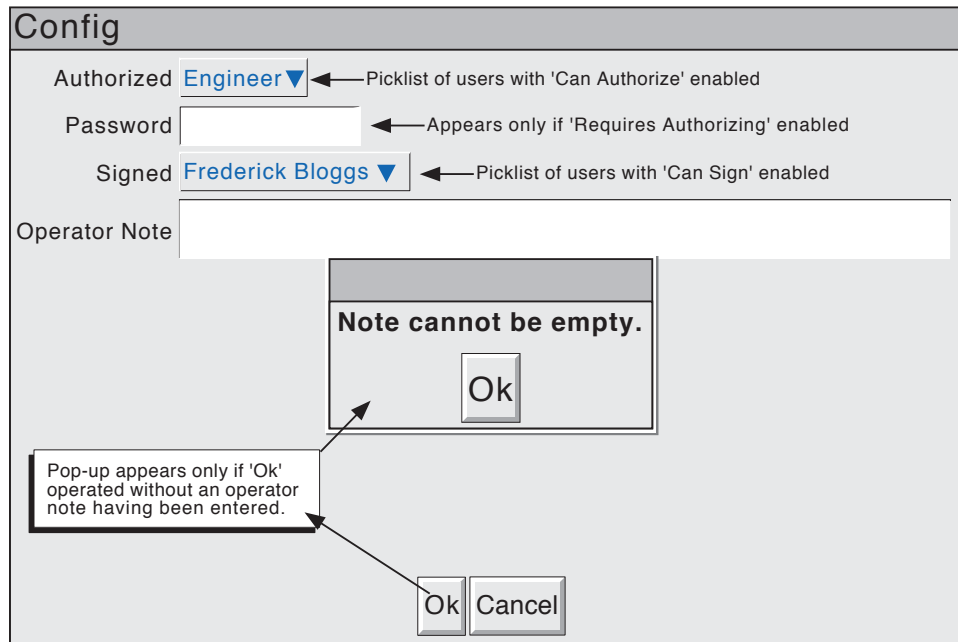

Figure 4.4.2b Signature page
**Require Authorization** This field appears only if 'Require Signing' is enabled. If Require Authorization is enabled, then changes to the unit's operation, configuration (or any other item included in the history file) can be made only by those users whose 'Can Authorize' permission is enabled in the 'Access' menu described in section 4.4.1 above. When 'Apply' is attempted, a 'signature' page (figure 4.4.2b) appears which requires the entry of the correct password for the selected user, and a note which would normally be used to give the reason for the change.